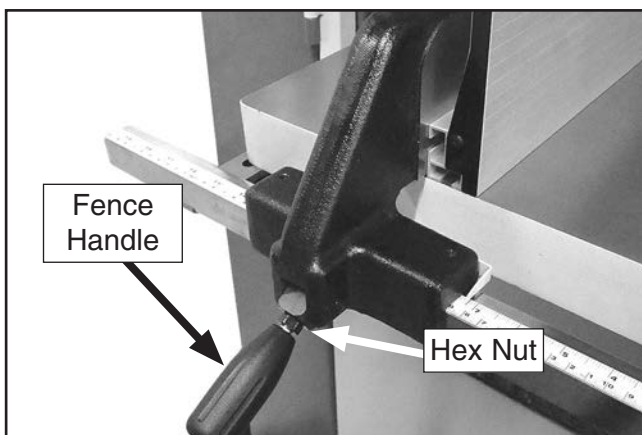

Figure 29. Fence handle components.
4. Thread the fence handle into the fence, then tighten the hex nut against the fence pivot block (see **Figure 29**).